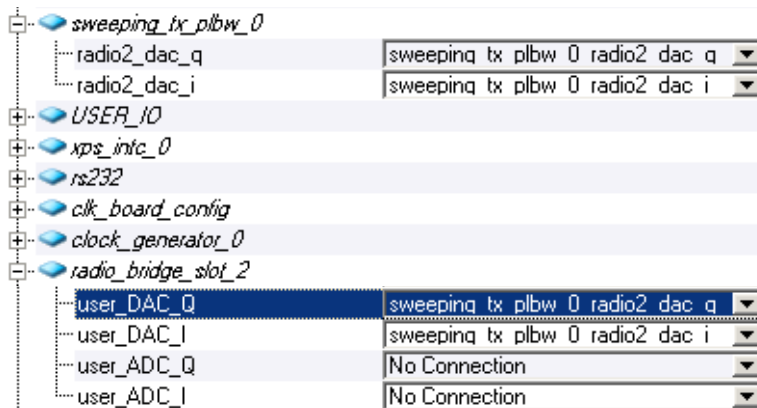

Figure 4: Port connections between sweeping sinusoid transmitter and radio bridge
7. When complete, your ports list should look like those shown in Figure 4 (the order of the ports may be different in your project).